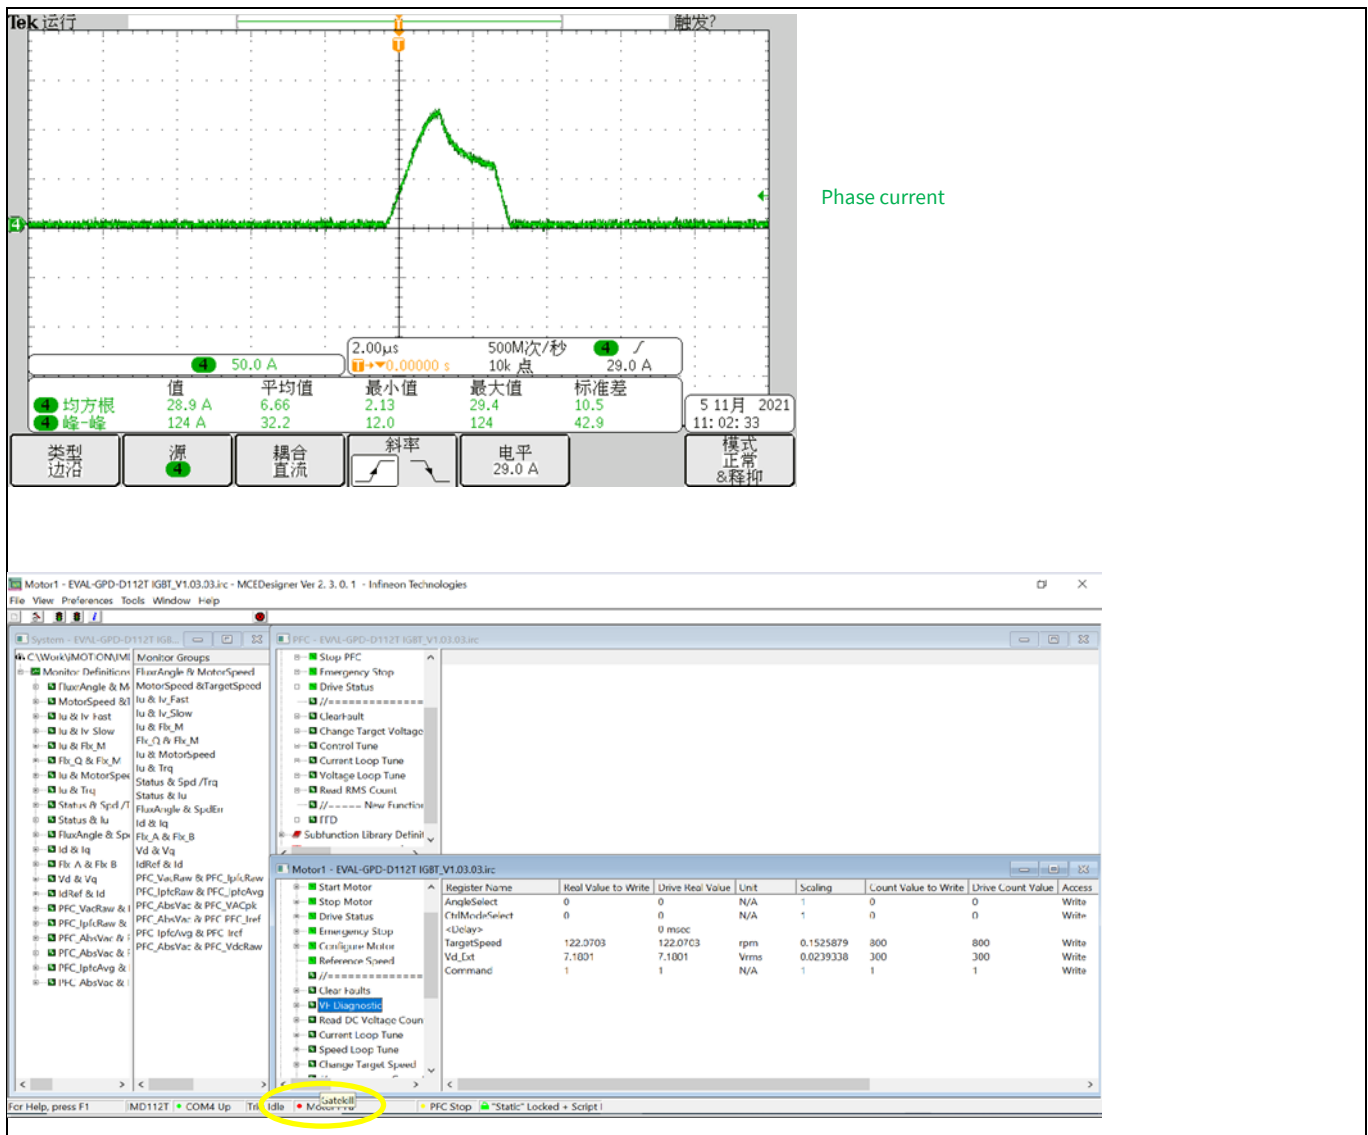

Figure 27 Inverter short-circuit protection
- System was protected properly; in the MCEDesigner, the status changed to a red flag; as activated by the Gate Kill pin (see Figure 27)